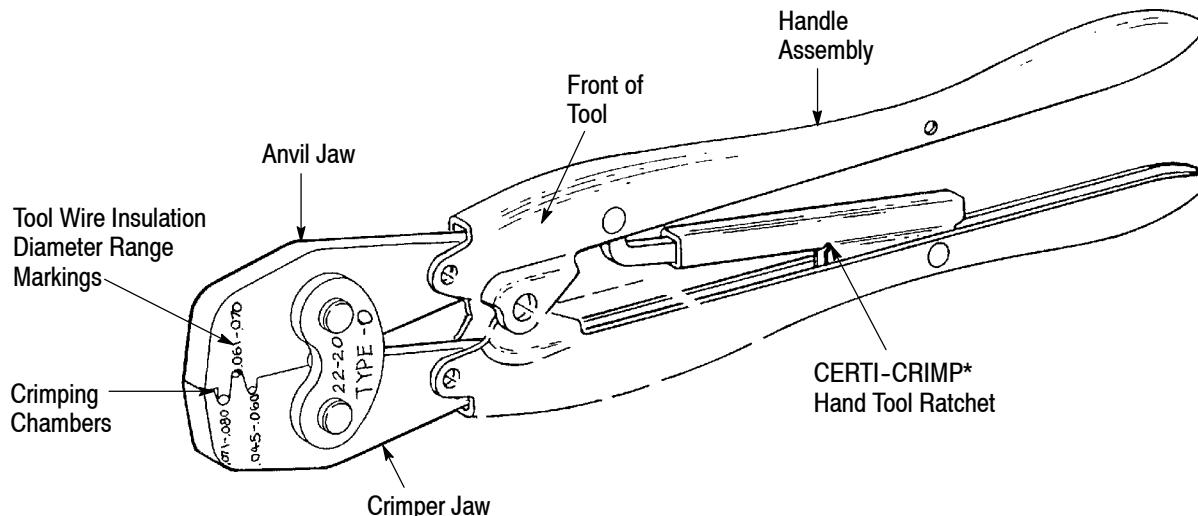

Figure 1
Dual-Action Hand Crimping Tool 47150 (shown in Figure 1) crimps Series 53 Insulation Piercing Taper Pins 42004, 42004-1, 41506, 41676, and other taper pins onto *unstripped* wire sizes and insulation diameter ranges listed in Figure 2. Read these instructions completely before using the tool.
**2. DESCRIPTION (Figure 1)**